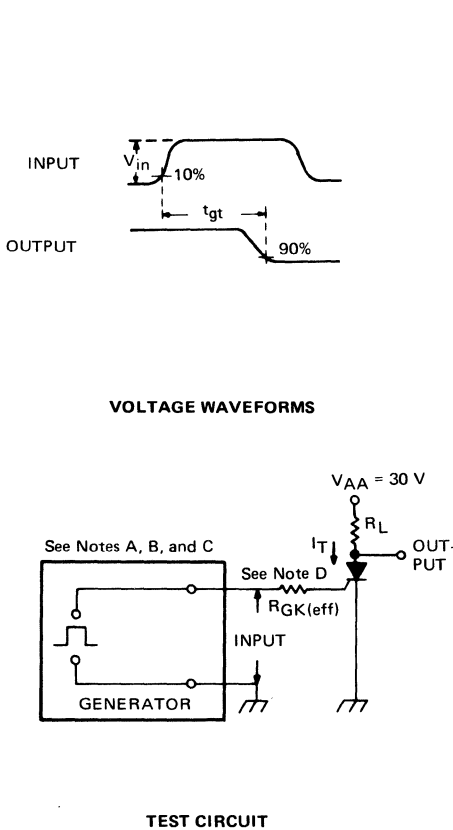

FIGURE 1 – GATE-CONTROLLED TURN-ON TIME
- B. The input waveform of Figure 1 has the following characteristics: $t_r \leq 40\text{ ns}$, $t_w \geq 20\ \mu\text{s}$.